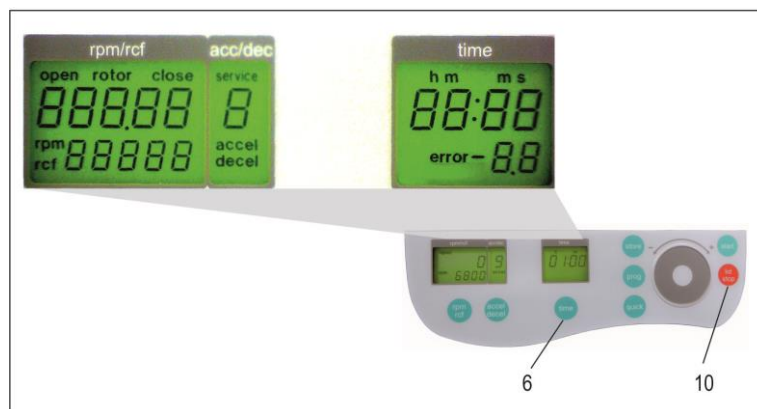

Figure 5
Open the centrifuge lid and shut off the main switch. Now switch on again the main switch. For approximately 3 seconds “SIEVA“ will be shown in the display. Press during this time the keys “time“ (6) and “lid“ (10) simultaneously. As a result, a display test is administered for approx. 3 seconds. All possible indications will appear at the same time (see Figure 5). The LED light is flashing alternately with green and red color.